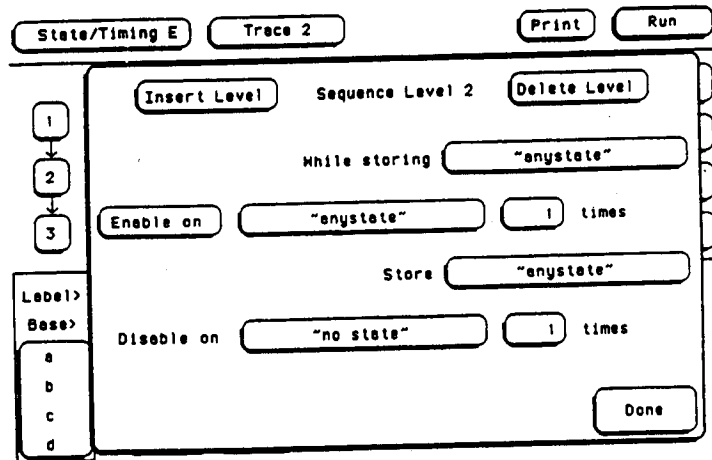

Figure 5-59. Sequence Level Pop-up Menu with Storage Macro On
*Enable on can only be the next to the last term, and when on, the last term is combined with the Enable term. For example, when you close the pop-up in figure 5-59, levels 2 and 3 will be combined.*
As an example, suppose you configure the sequence level of figure 5-59 to look like that shown below.